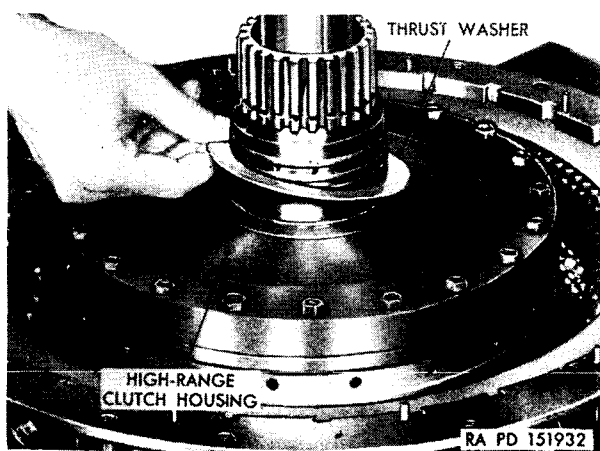
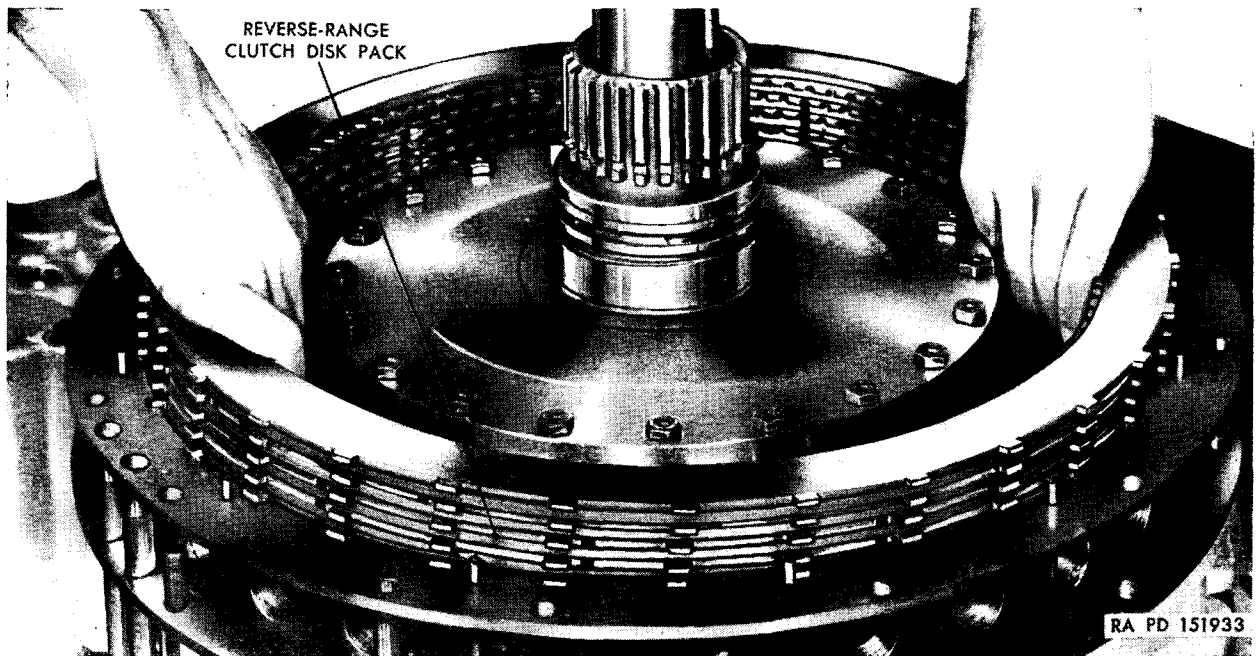
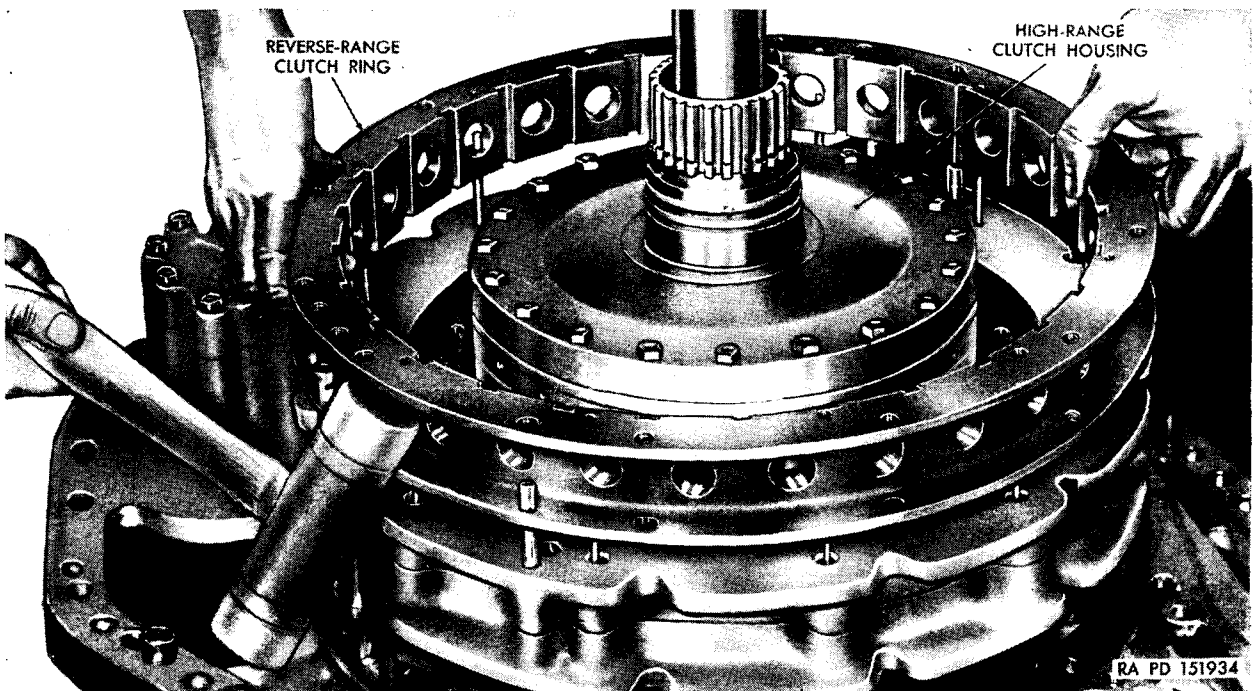

Figure 193. Removing thrust washer.
Figure 194. Removing reverse-range-clutch disk pack.
Figure 195. Removing reverse-range-clutch ring.
- (2) Remove the thrust washer from the high-range-clutch housing (fig. 193). Lift out the 11 disks in the reverse-range-clutch disk pack (fig. 194). Remove the reverse-range-clutch ring, using a soft hammer (fig. 195).